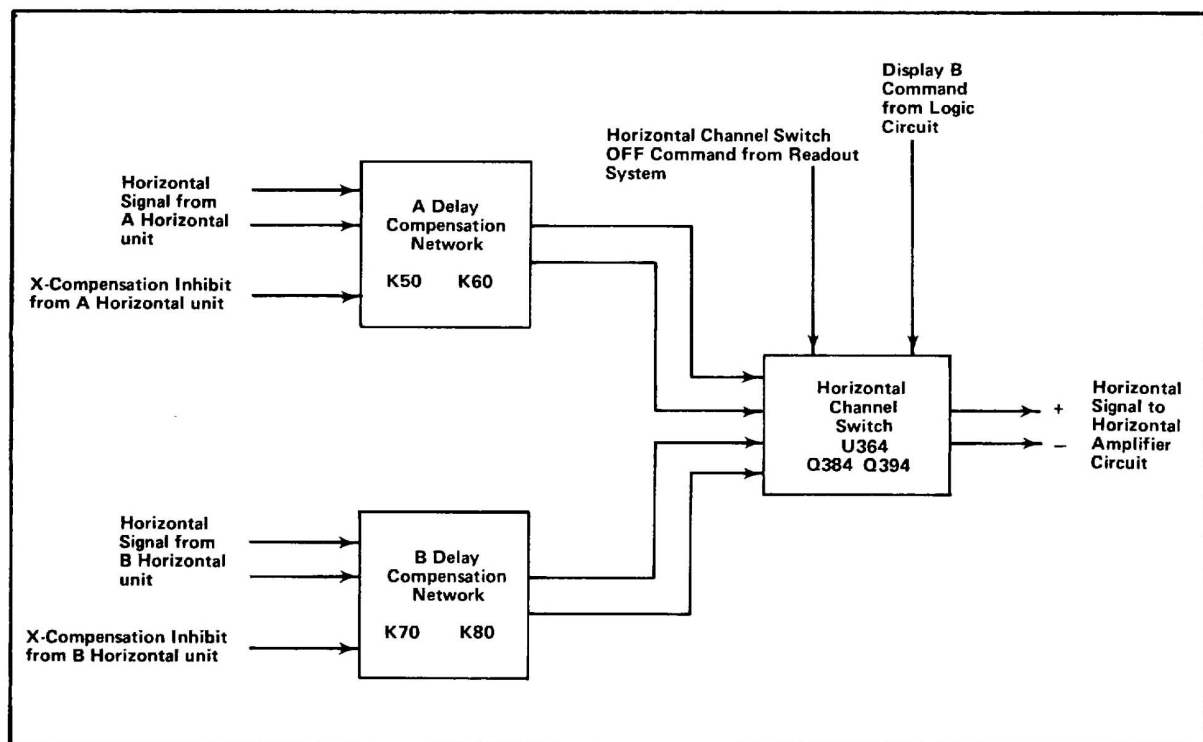

Fig. 3-27. Horizontal Interface detailed block diagram.
The Horizontal Interface circuit is made up of the X-Y Delay Compensation Network and the Horizontal Channel Switch stage. The X-Y Delay Compensation Network (optional) provides a delay for the horizontal (X) portion of an X-Y display to match the delay of the vertical (Y) signal due to the Delay Line. The Horizontal Channel Switch portion of the circuit selects the horizontal deflection signal from the output of the A Horizontal and/or the B Horizontal plug-in unit. Fig. 3-27 shows a detailed block diagram of this circuit. A schematic of this circuit is shown on diagram 6 at the rear of this manual.